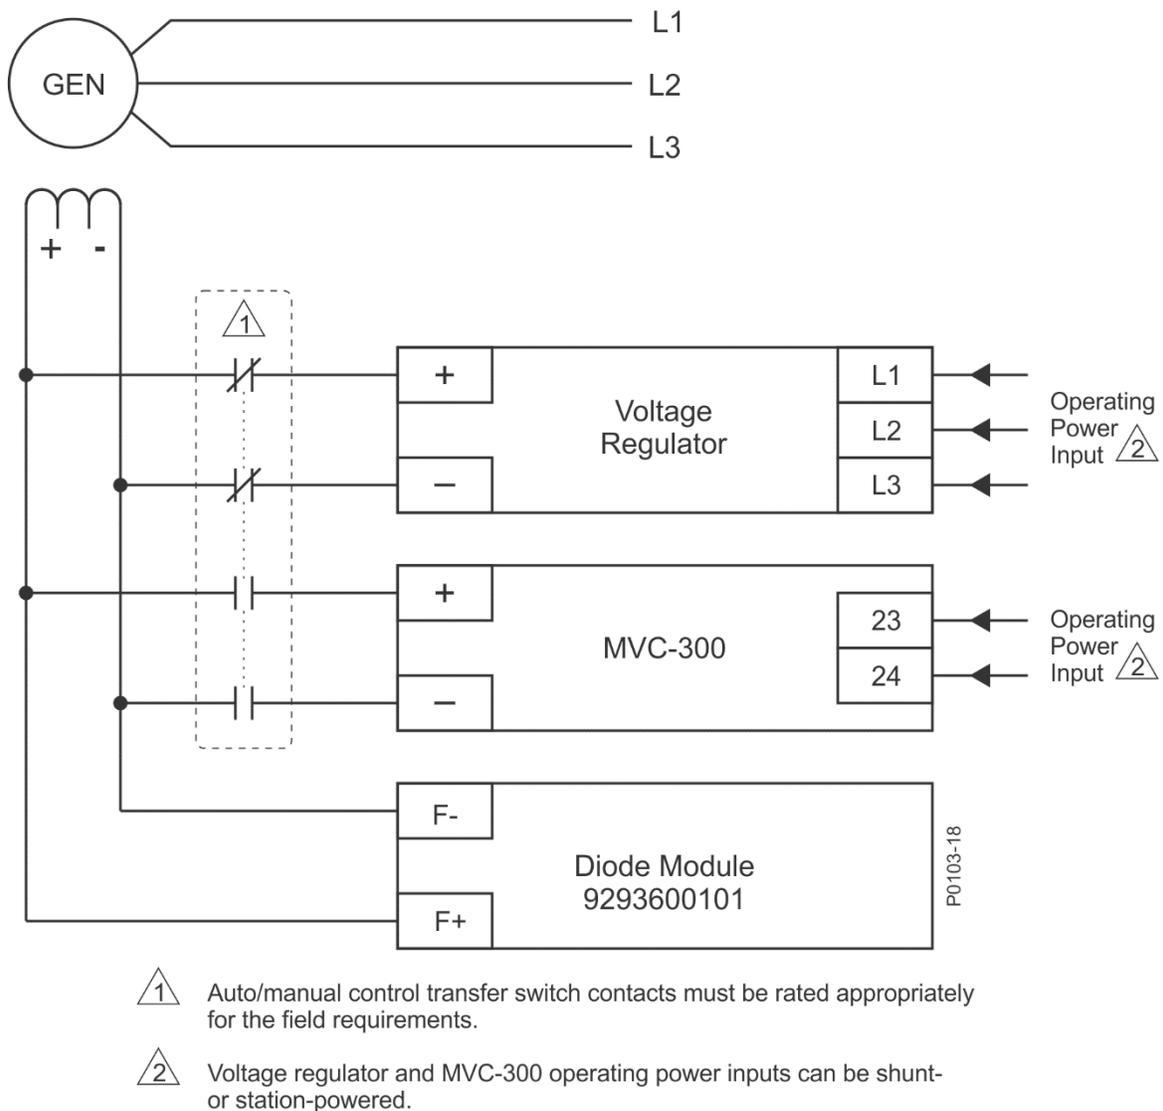

Figure 5. MVC-300 Connections with PWM Voltage Regulator
Applying the MVC-300 with a digital voltage regulator that relies upon field current measurement for field regulation (such as the Basler DECS-150 or DECS-250) can result in damage if connected as shown in Figure 4 and on the MVC-300 front panel. In these applications, an auto/manual control switch and diode module must be implemented as shown in Figure 5. The switch transfers control of excitation between the voltage regulator and the MVC-300. The diode module, Basler part number 9293600101, suppresses excessive field voltage buildup when the switch is operated and its contacts change state.
- Verify that all MVC-300 wiring is correct and in accordance with the connection diagrams of Figure 4 or Figure 5, depending upon your application.